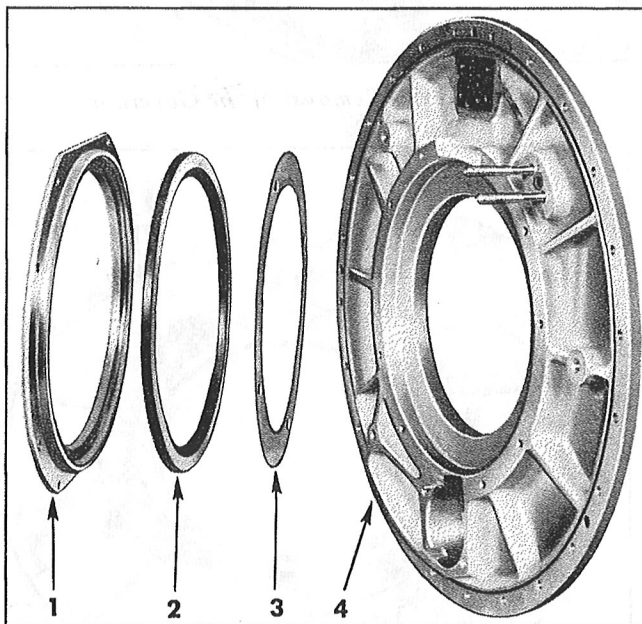

Figure 145—Bearing, Seal, Washer and Housing
*Step 23.*—Lift out the regulator washer from the housing recess, as shown in Figure 145. No washer is used with models A632S-A1 and -A2 regulators.
*Step 2.*—Place the regulator washer in the housing recess, on models A632S-C1, -B1, and -B5 only. See Figure 145.
*Step 3.*—Place the regulator housing seal and spring in the housing with the metal side of the seal against the housing part, on models A632S-C1, -B1, and -B5 only. See Figure 145.